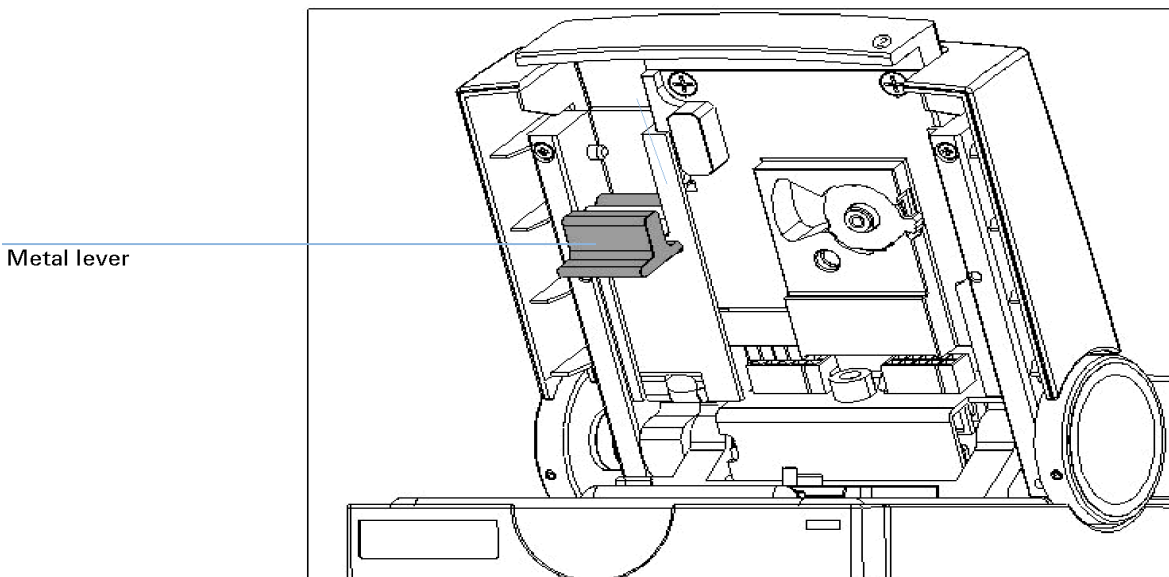

Figure 11 Removing/replacing the pressure cartridge
- 2 Open the lid and pull down the locking lever on the left inside the lid to the open position as shown in Figure 11 on page 179. The pressure cartridge is pushed out about 10 mm.
- 7 Slide the pressure cartridge in the lid as shown in Figure 11 on page 179.
- 9 Push the metal front of the pressure cartridge to ensure a tight connection to the 2100 Bioanalyzer, see Figure 11 on page 179.